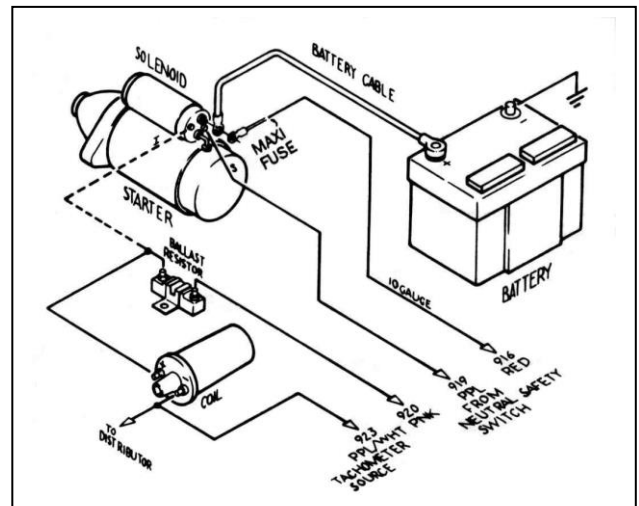

Figure 9-2 GM Ignition (Start-Run) System
9.0 Ignition (Start/Run) System. See Figure 9-2.
9.1.2 A 14-gauge wire connected from the Starter Solenoid Ignition (I) terminal to the ignition coil side of the Ballast Resistor is optional. This wire (the dashed line in **Figure 9-2**) serves as a ballast resistor BYPASS during engine starting. However, if the starter solenoid shorts out, which is not unusual, the engine will stop running and will not restart as long as this wire is connected. You may therefore choose to omit it. If you are not using a Ballast Resistor, leave the Starter Solenoid Ignition (I) terminal unconnected and do not install the bypass wire.